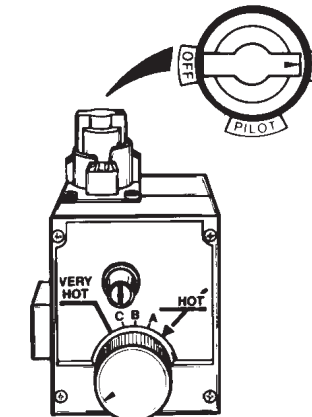

Figure 10
**do not use gas control knob to regulate gas flow.** (Figure 10)